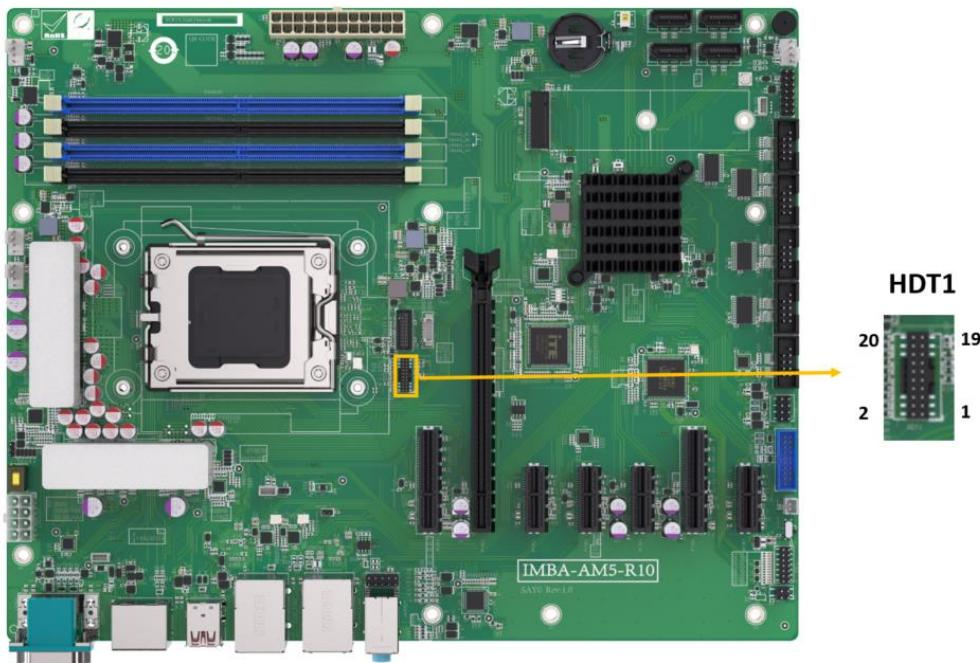

Figure 4-5: CPU 12V Power Connector Location
- CN Location:** See **Figure 4-5**